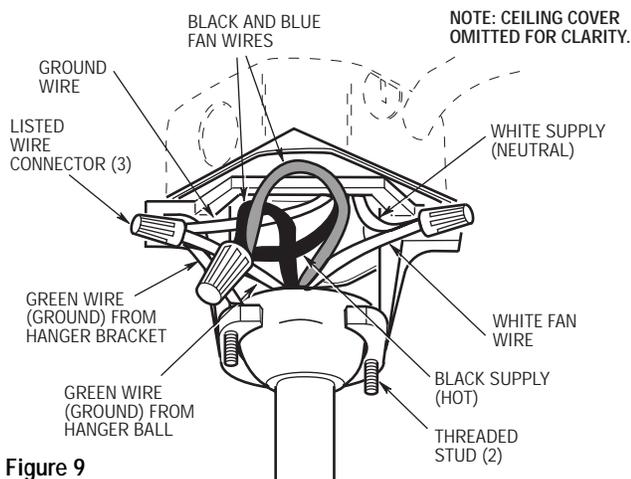

Figure 9
1. Connect the green grounding lead from the hanger ball and the green grounding lead from the hanger bracket to the grounding conductor of supply (this may be a bare wire or wire with green colored insulation) (Figure 9). Securely connect the wires using wire connector supplied.
2. Securely connect the fan motor white wire to the supply white (neutral) wire using wire connector supplied (Figure 9). Securely connect the fan motor black wire and blue wire to the supply black (hot) wire using wire connector supplied (Figure 9). After connections have been made, turn leads upward and carefully push leads into the outlet box, with the white and green leads on one side of the outlet box and the black and blue leads on the other side of the outlet box.
3. Screw the two threaded studs (supplied) into the tapped holes in the hanger bracket (Figure 9).